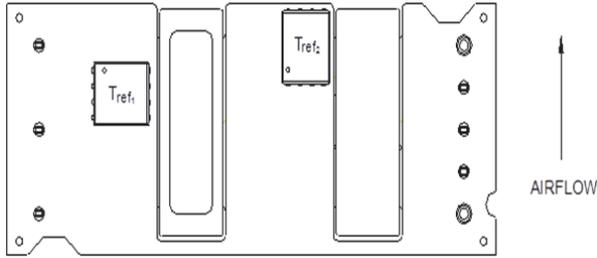

Figure 13. T_{ref} Temperature Measurement Locations for Open Frame Module.
To provide protection under certain fault conditions, the unit is equipped with a thermal shutdown circuit. The unit will shutdown if the thermal reference point, T_{ref} , exceed 124 °C & 121 °C respectively °C (Figure 13, typical), but the thermal shutdown is not intended as a guarantee that the unit will survive temperatures beyond its rating. The module will automatically restart upon cool-down to a safe temperature.
The thermal reference points, T_{ref1} , and T_{ref2} used in the specifications for open frame modules are shown in Figure 13. For reliable operation these temperatures should not exceed 124 °C & 121 °C respectively